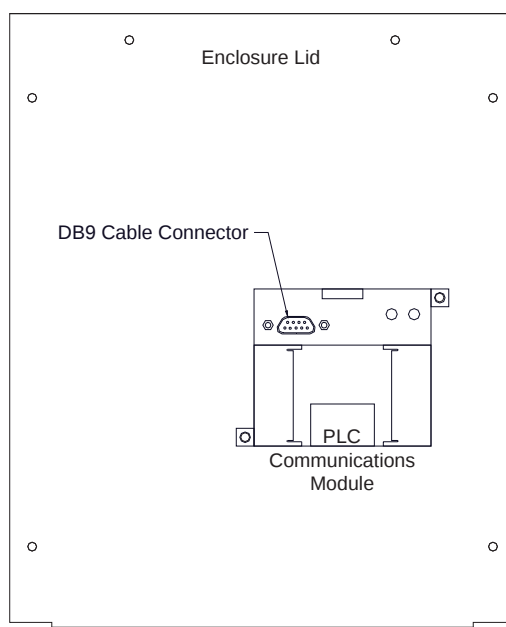

Figure 34 Display Back Panel
1. Disconnect blue DB9 cable from PLC Communications Module (Figure 34).